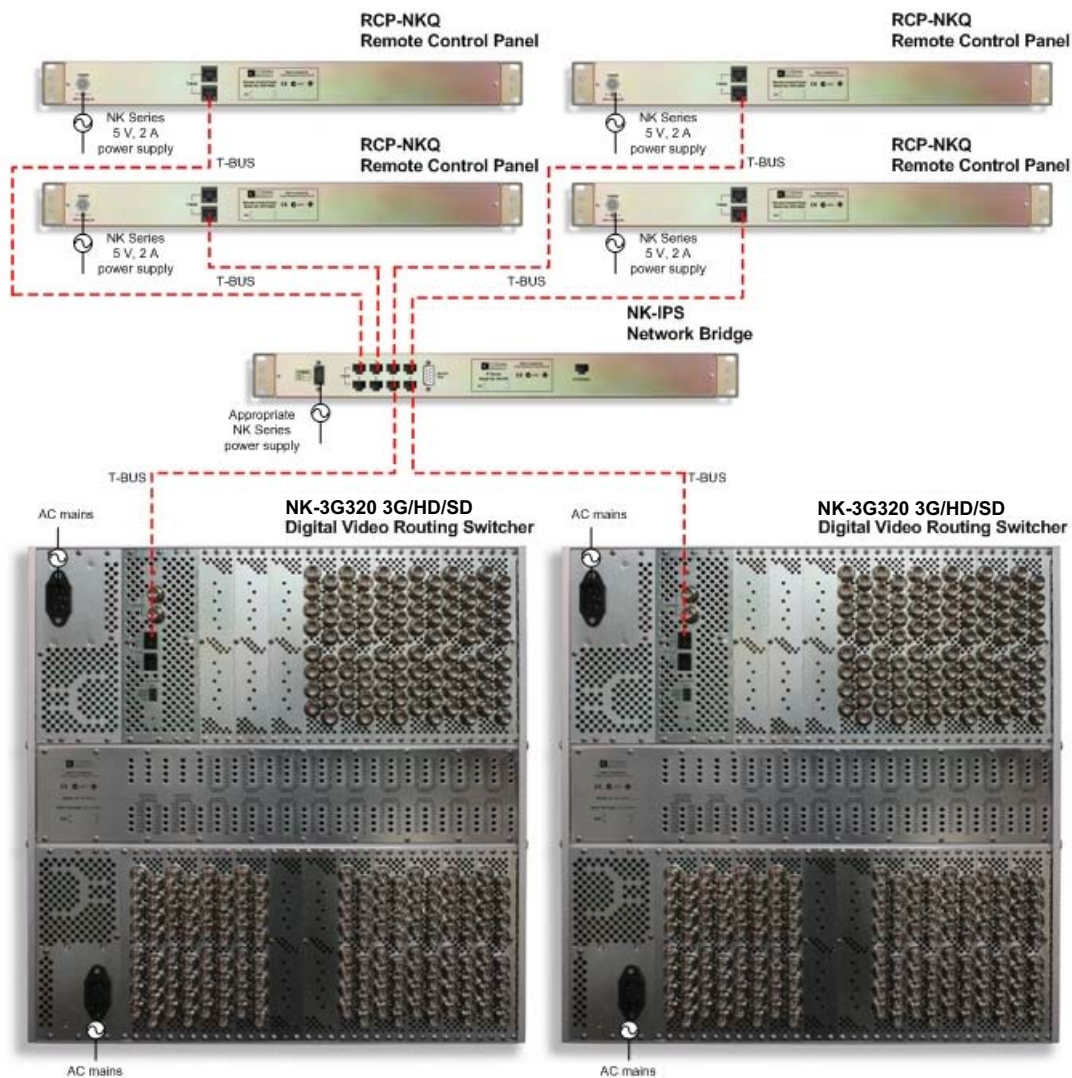

Figure 3.2 *NK Series Equipment in a Star Layout*
3. Connect a straight-through CAT5 cable between a **T-BUS** connector on the rear panel of the equipment and a **T-BUS** connector on the rear panel of the NK-IPS (see **Figure 3.2**).